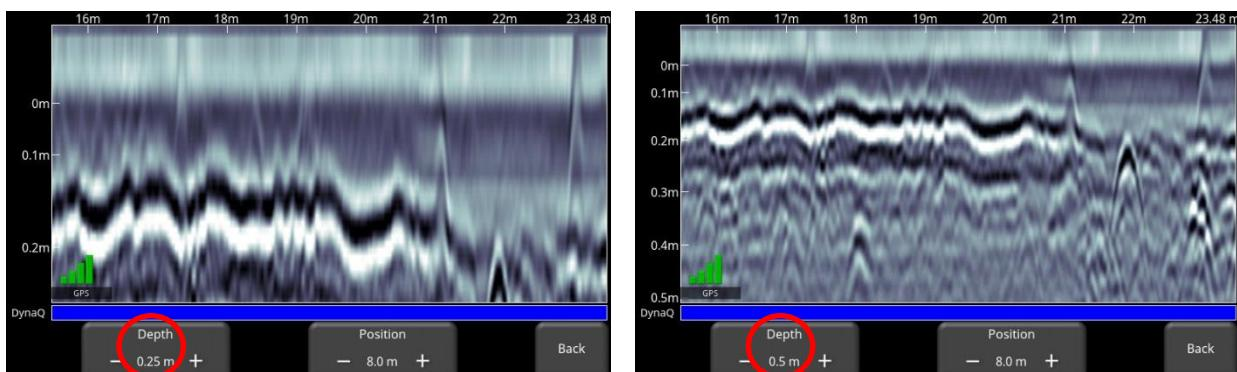

Figure 7-10: Changing the displayed depth
- **Depth** – Pressing + and - under the **Depth** button allows you to change the maximum displayed depth (Figure 7-10). This is based on time window \(6.1.2\) set in the System Configuration menu, as well as the currently selected velocity.